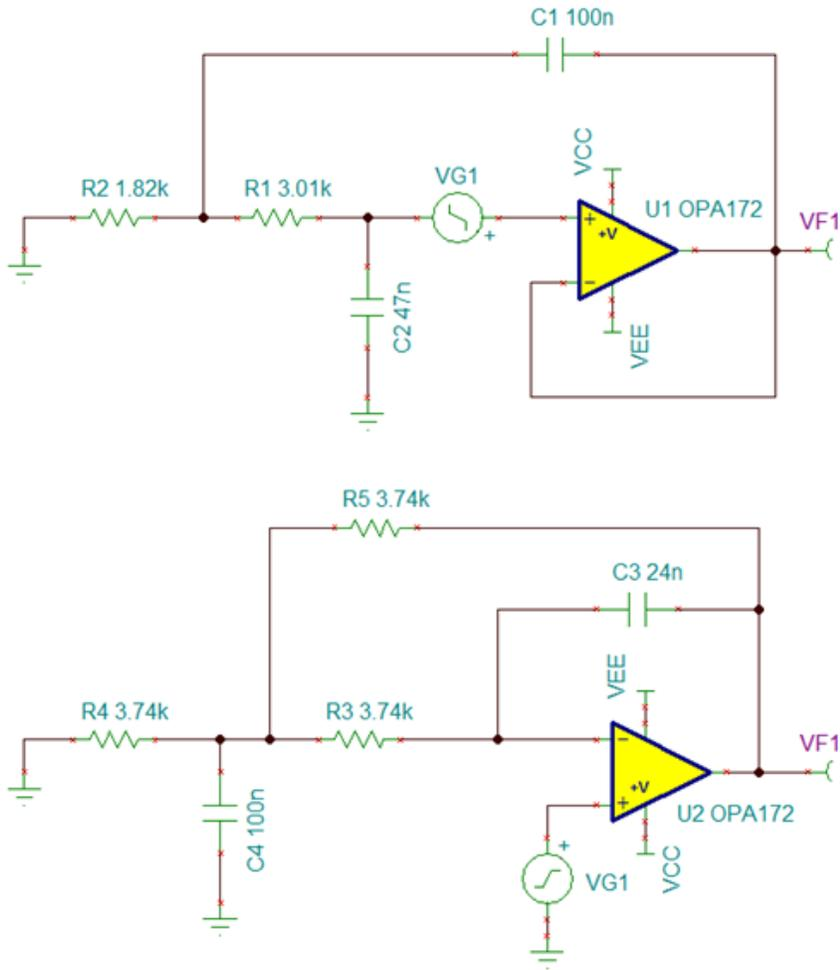

Figure 1: Circuit configuration for measuring the noise gain of Sallen-Key (top) and multiple feedback (bottom) active filters.
Figure 1 shows the TINA-TI™ simulation circuit I used to measure the noise gain of two 2nd-order, Butterworth, 1kHz low pass filters. One circuit uses the Sallen-Key (SK) topology and the other uses a multiple feedback (MFB) topology. To measure the noise gain of an active filter, the signal input is grounded and a signal source is inserted in series with the op amp non-inverting input.
John Caldwell Ahmet, noise gain is different than signal gain because it is always measured from the non-inverting input of the amplifier as I show in Figure 1. In these two circuits, the noise gain is measured from the point where I have inserted the voltage sources (VG1 in both circuits) however the signal gain would be measured from the filter input (where R2 and R4 are grounded).